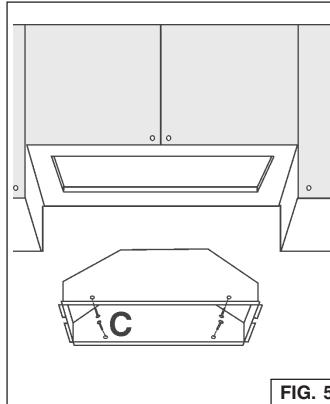
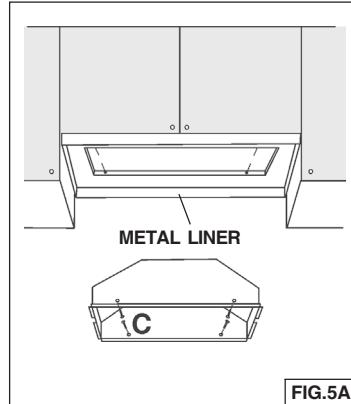

FIG. 5
FIG. 5A
4. NOTE: For installations where the Power Pack is less than 30" above cook top, it is recommended that the Power Pack be mounted into a metal liner or non-combustible material. This will allow easier cleaning and provide protection to the cabinetry (Fig.5A).
5. Insert the hood in the cabinet (Fig. 5) or metal liner (Fig. 5A) and lock in place by means of the side spring.
6. Secure the hood with the (4) "C" mounting sheet metal screws. (Fig. 5 - wood bottom installation; recommended thickness 1/2"-3/4").